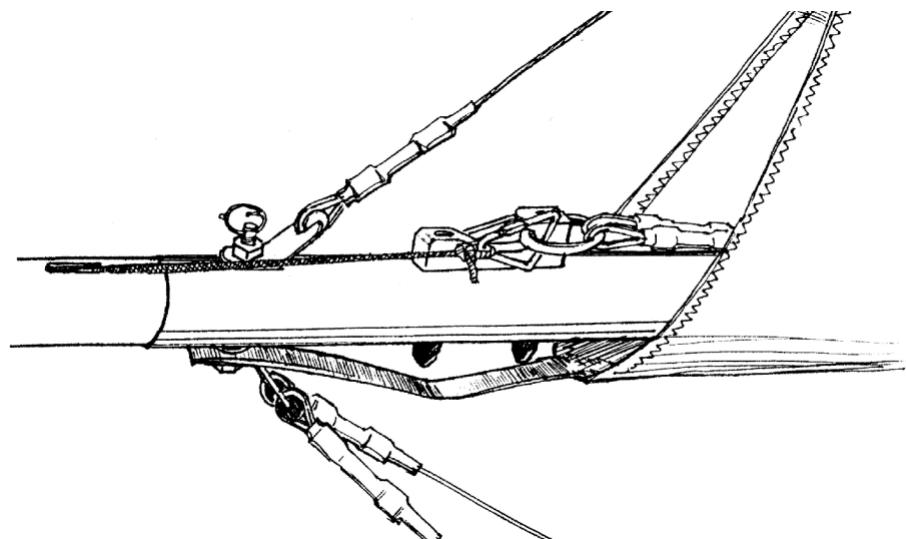

Fig. 20
2.1.22. Put the crossbar tensioning wires through the keel pocket. Do not twist the wires. Fix the maillon of rubber rope to the ring of crossbar tensioning wires (Fig. 20).